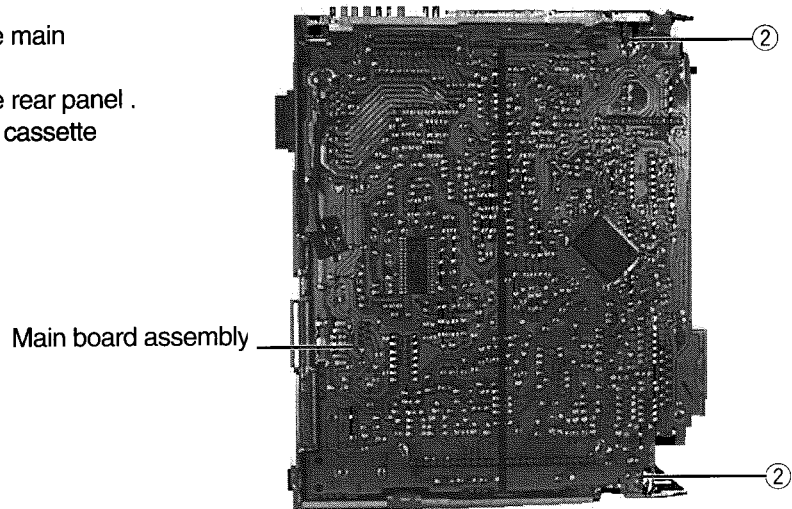

Fig. 6
■ Removing the Main Board Assembly (See Fig. 6 ,7)
4. Remove the two screws ② retaining the main board assembly.
5. Remove the two screws ③ retaining the rear panel .